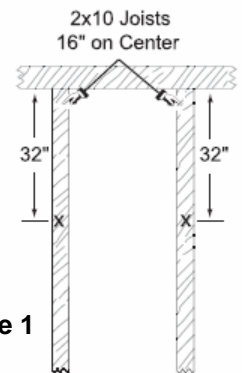

Figure 1
- A. Determine where in the room the speaker brackets will need to be located. After determining, measure from a fixed location and mark the corresponding joists/studs. **(See Figure 1)**